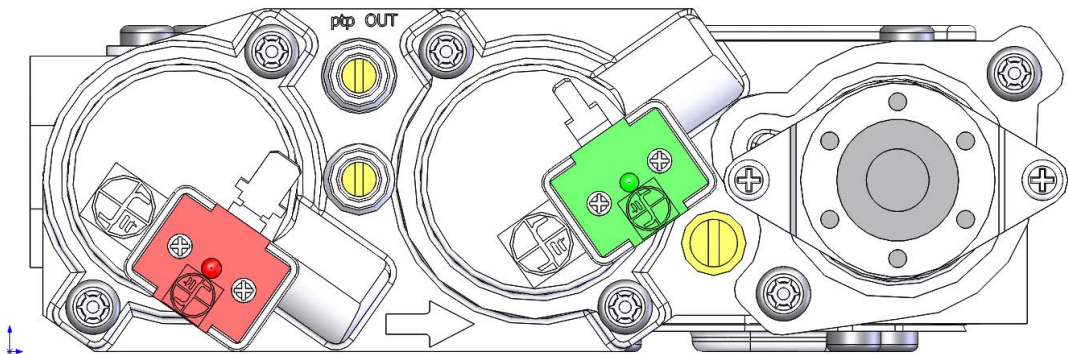

Figure 12.1, Pressure Check Taps
1. Loosen the inlet (IN) pressure tap by turning screw counterclockwise. See (A) in Figure 12.1.
5. Disconnect hose and tighten the inlet (IN) pressure tap by turning screw clockwise. Screw should be snug. Do not over tighten.
6. Relight pilot and burner. Then reattach manometer to the inlet pressure tap (A) to verify the tap is completely sealed. Manometer should read no pressure.
2. Loosen manifold (OUT) pressure tap by turning screw counterclockwise. See (B) in Figure 12.1.
7. Attach the manometer to the manifold pressure tap (B) to verify it is completely sealed. The manometer should read no pressure when pilot and burner are on.